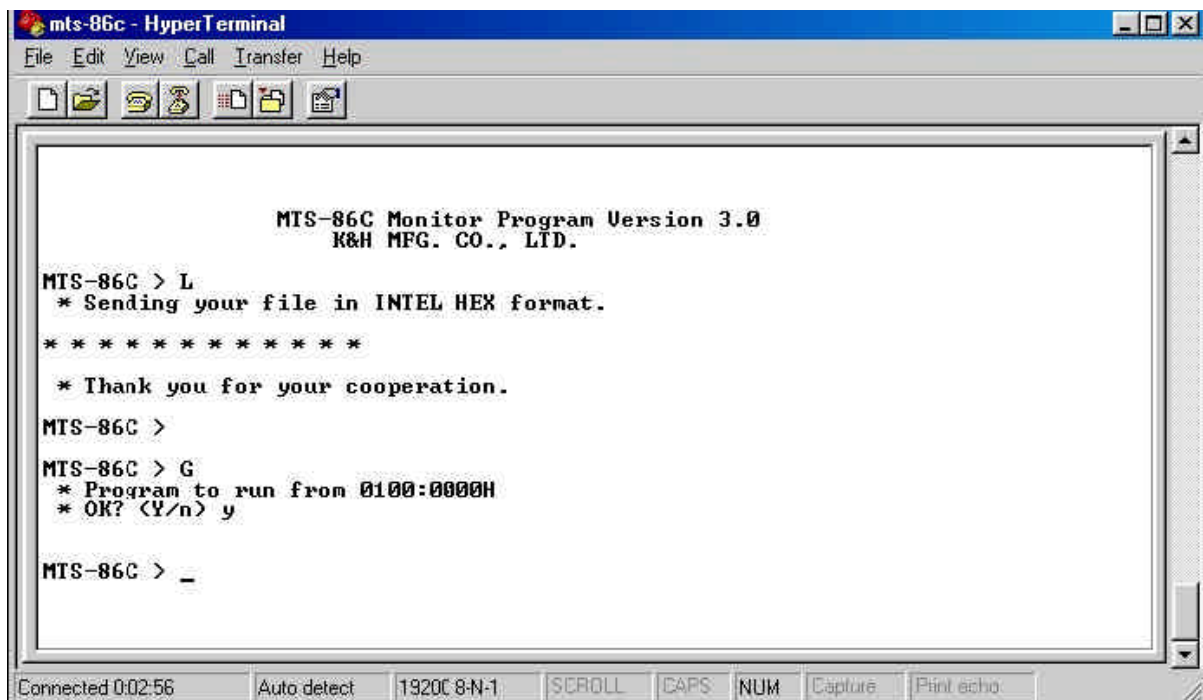

Fig. 1.19 Executing program using G command
- j) Press "G" and "Enter" and the program will be performed on MTS-86C trainer, as shown in Fig. 1.19.